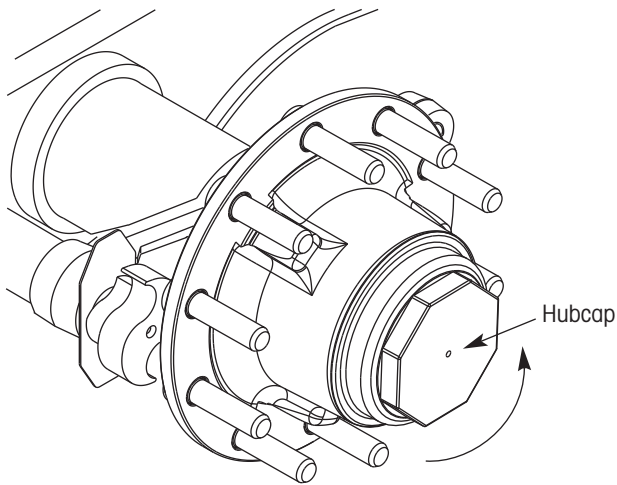

Figure 8. Removing the hubcap
- Remove the hubcap by rotating it counterclockwise (figure 8).